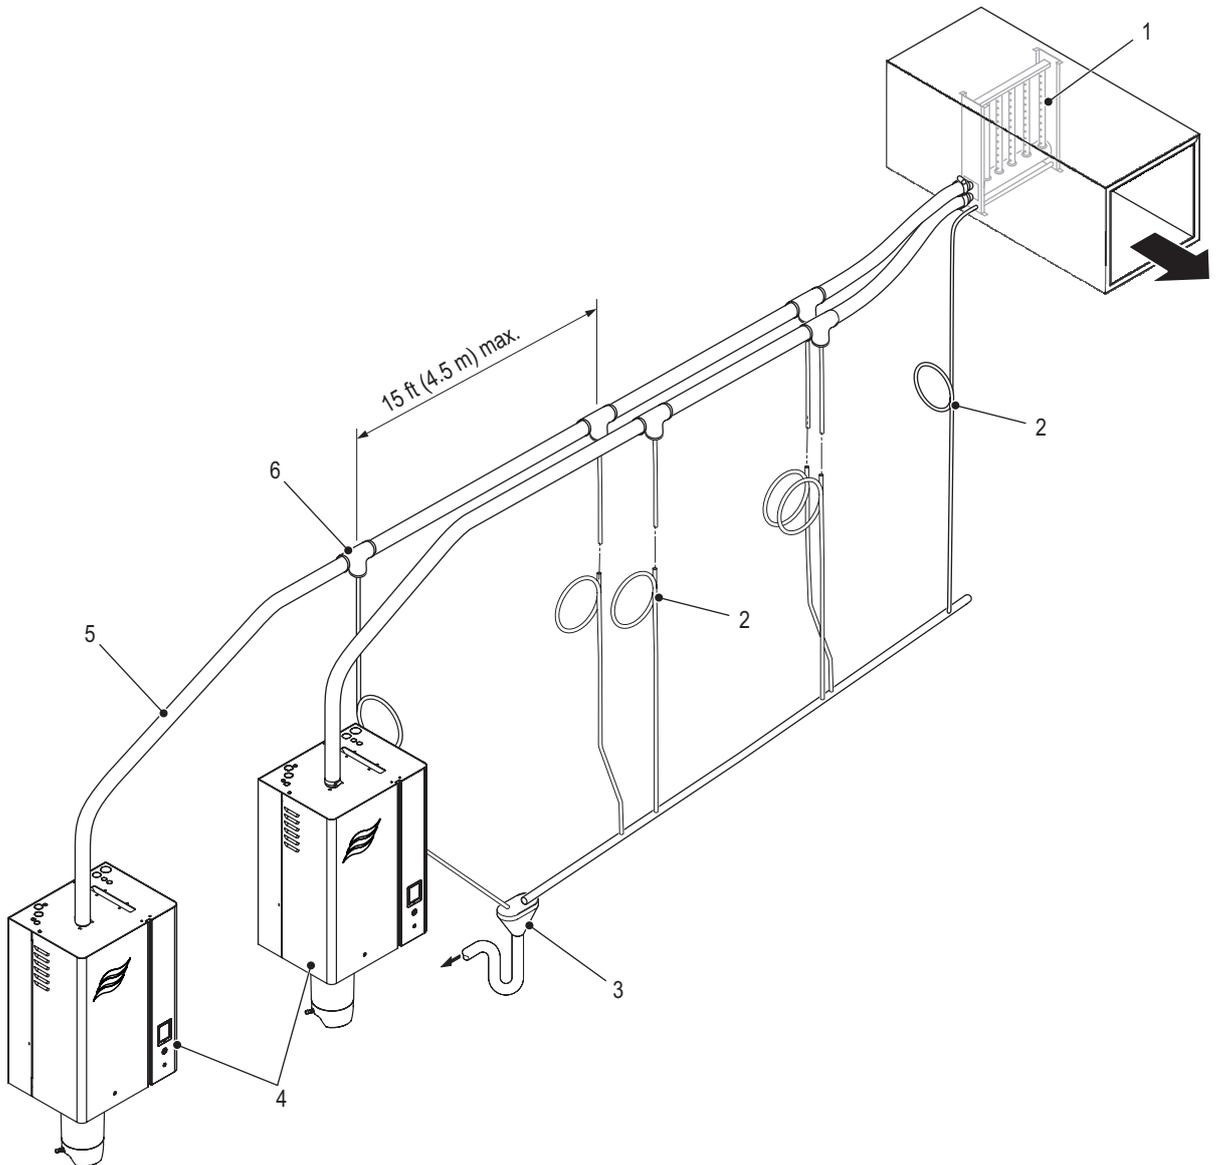

Figure 20: Combining Multiple Steam Lines
- Condensate lines and traps must be installed at regular intervals on long steam runs, and the maximum distance between condensate lines is 15 ft (4.5 m). Refer to Figure 20 on page 37.
- Multiple steam lines (from a Nortec RS 90L/130/180 with dual steam cylinders, or multiple humidifiers) must not merge except at the steam distributor, and ONLY if the steam cylinders operate in parallel mode – refer to Figure 20. If necessary, a specifically designed optional Condairst adaptor must be used to connect the steam lines to the steam distributor.